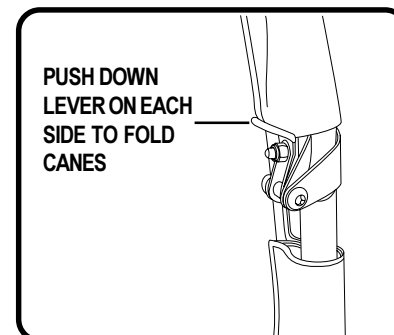

Figure 4. Seat Cane Release Lever
2. Push down on the seat cane release lever on each side to fold the canes down. See figure 4.